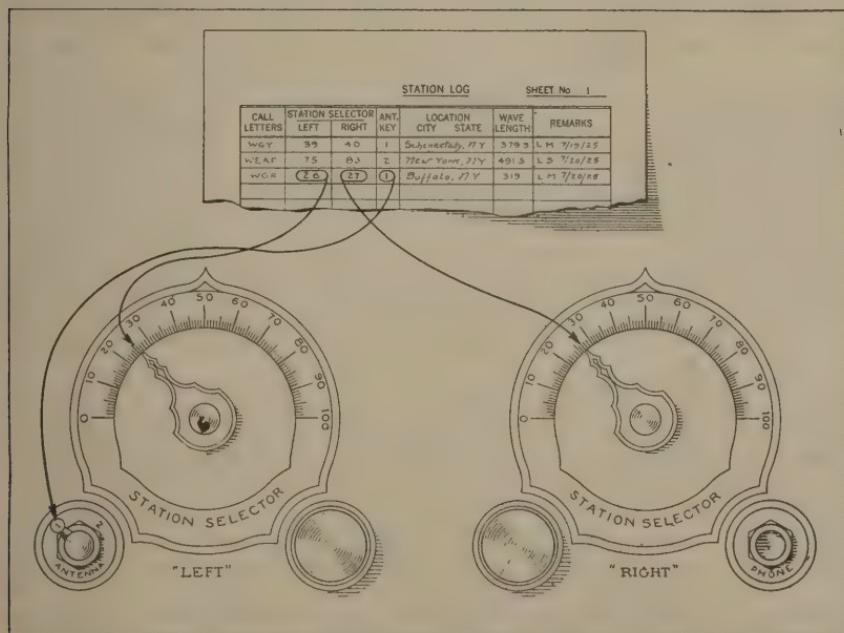

Fig. 22—Selecting Stations by Station Log Card Records
When first operating the receiver, it is well to list several of the stations on the log card, Fig. 22, by means of the calibration chart, after which stations can be easily picked up and logged. Section 49 of this book gives a partial list of Broadcasting Stations with spaces to log STATION SELECTOR settings.
The position of the ANTENNA key should be noted on the station log cards (Fig. 22) in the space provided and marked "ANT. KEY," to insure ease of locating the station from the log.
- (c) "Station Selecting by Station Log Method" (Fig. 22).
After the station call letters are heard, you can record the two corrected STATION SELECTOR settings and the setting of the ANTENNA key on the station log card, as shown in Fig. 22, or in the spaces provided in the table of Broadcasting Stations of Section 49 of this book.
Starting with the pointers of the two STATION SELECTORS at "O" setting, rotate the right hand pointer slowly about two divisions at a time and follow with the left hand STATION SELECTOR pointer, oscillating the latter pointer a few divisions above and below each setting of the right hand pointer. When a station is heard, re-set each pointer to the position giving the loudest volume of signal, recording the settings of the two STATION SELECTORS on the log card, Fig. 22, or in the spaces provided in Section 49, when the call letters are heard.
Once you have recorded dial settings for a number of broadcast stations on the station log cards, or in the spaces provided in Section 49, you can obtain broadcast reception from these stations at any future time if the stations are broadcasting and conditions are favorable, by merely setting the pointers of the two STATION SELECTOR dials to correspond to the recorded numbers as shown in Fig. 22.
The setting of this left hand STATION SELECTOR also is dependent on the position of the ANTENNA key lever, when an antenna is used, therefore, it is advisable to record the position of the antenna key on the station log card in the column marked "ANT. KEY" as indicated in Fig. 22. See special instructions covering operation with a loop, in Section 37.